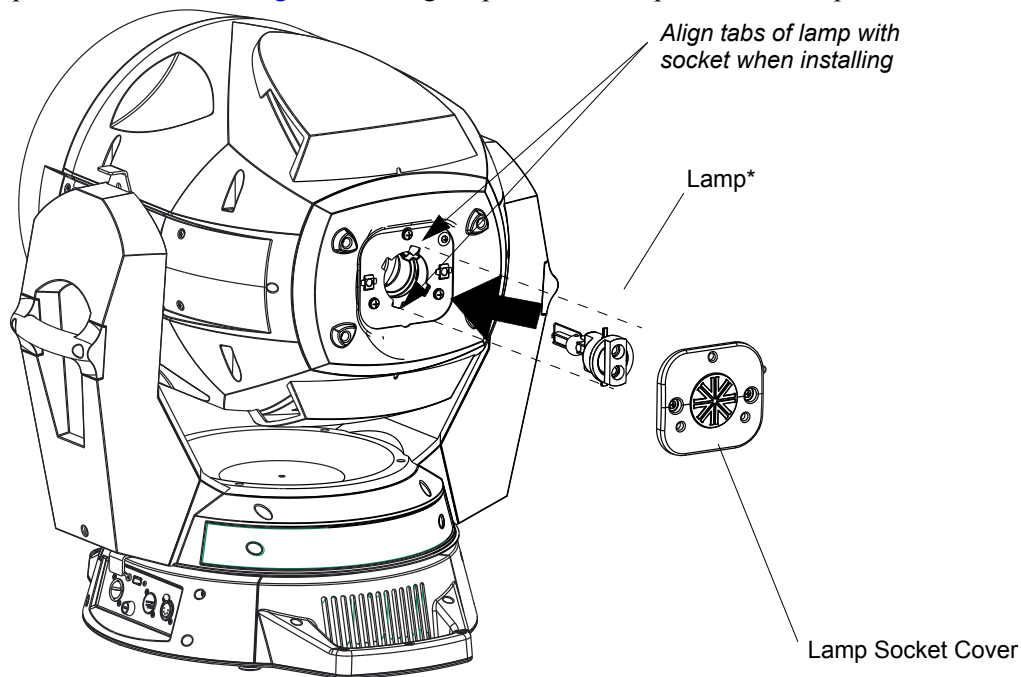

Figure A-2: Lamp Installation
- Step 5. To remove lamp, grasp lamp base by hand, twist lamp counter-clockwise until lamp's tabs align with slots in lamp socket (see Figure A-2 on page 73 for more information), and remove lamp by pulling it straight out of socket.
- Step 7. As shown in Figure A-2, align replacement lamp tabs with lamp socket.